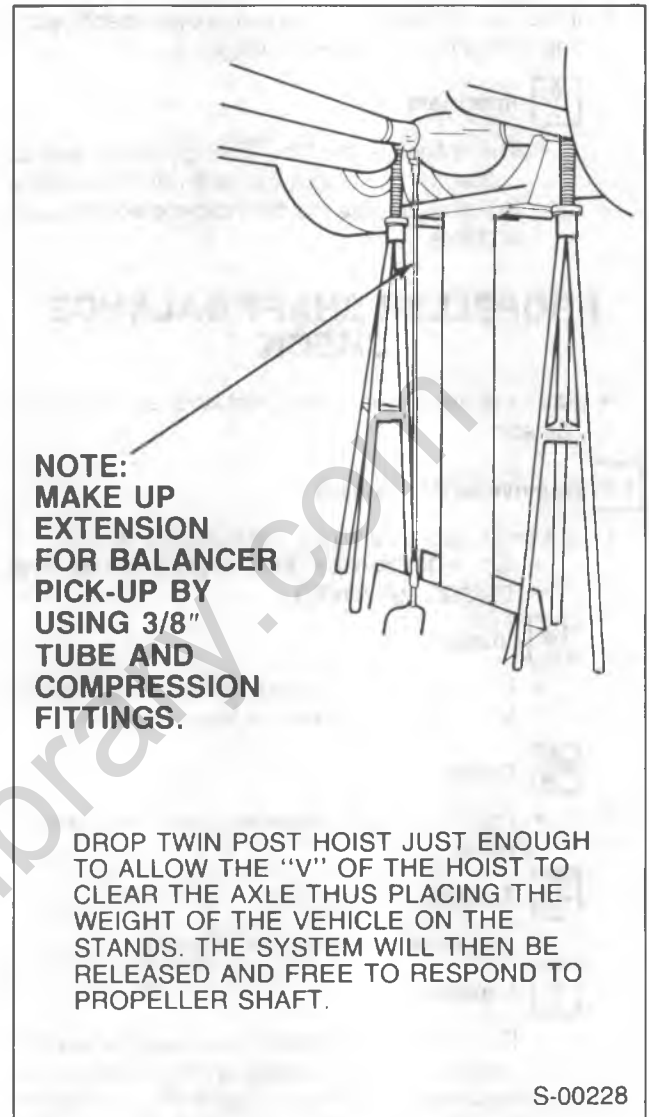

Figure 15—Pick-up Unit Replacement
STROBE LIGHT METHOD (FIGURES 15 and 16).
2. Mark and number propeller shaft at four (4) points 90 degrees apart at rear of propeller shaft just forward of balance weights, as shown.
3. Place the strobe light wheel balancer pick-up under the nose of the carrier (figure 15).